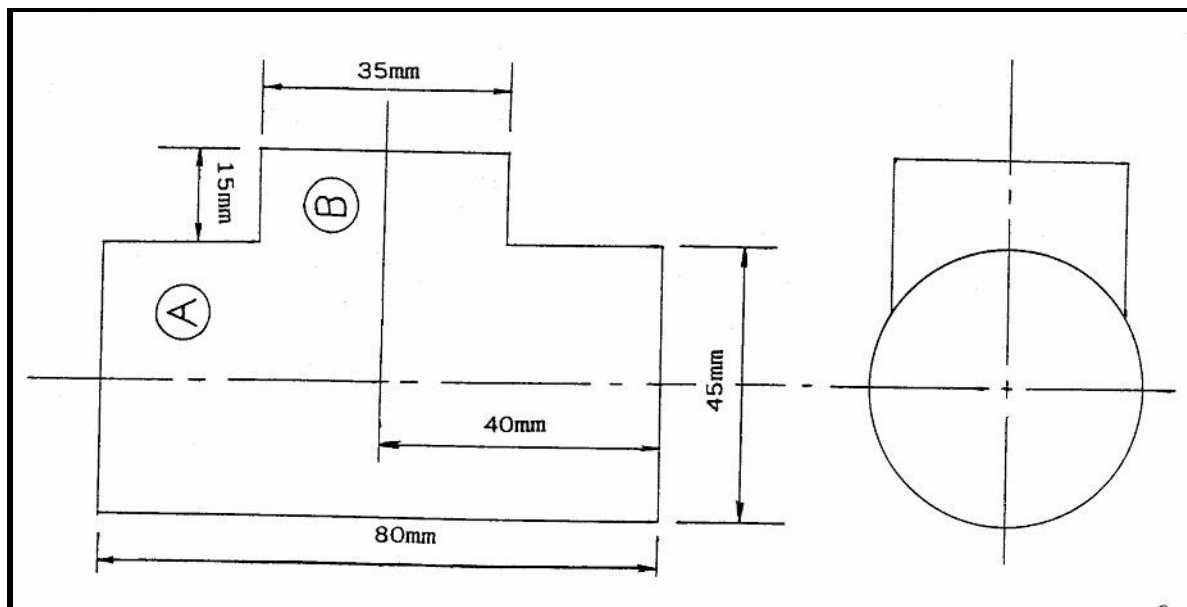

Figure 8
**Figure 8** below shows the incomplete front view and top view of two cylinders intersecting each other.